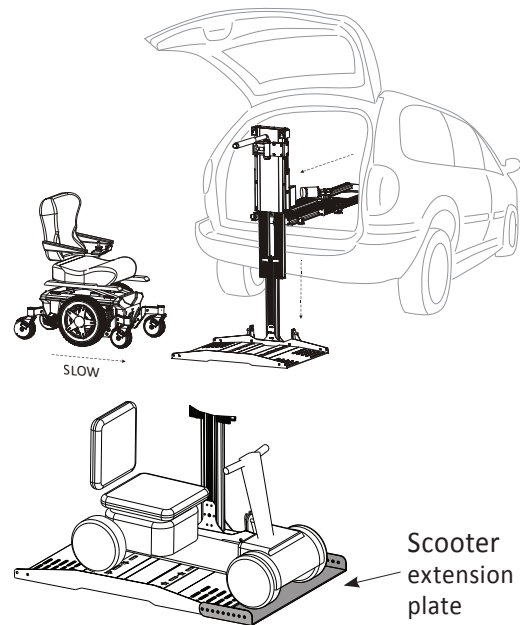

Figure 3-2
1. Loading the mobility device onto the platform. Determine the heaviest portion of the mobility device. This is usually under the drive wheels, motor(s), and batteries. Always walk the mobility device onto the platform with the heaviest portion closest to the lifting tower. If loading a scooter and the platform has the AL617 extension plate, position the scooter so the front wheels are resting on the extension plate, and the rear wheels are on the main platform. This allows the heaviest portion of the scooter to be closest to the lifting tower. Set your mobility device speed control to slow speed to maneuver easily onto the platform. *See Figures 3-2.*